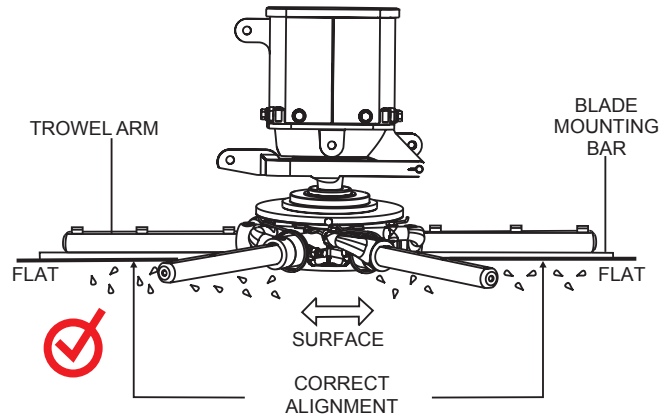

Figure 48. Correct Spider Plate Alignment
2. Pitch the blades as flat as possible. The adjustment bolts should all barely make contact with the lower wear plate on the spider. If one is not making contact (Figure 48), adjustment will be necessary.